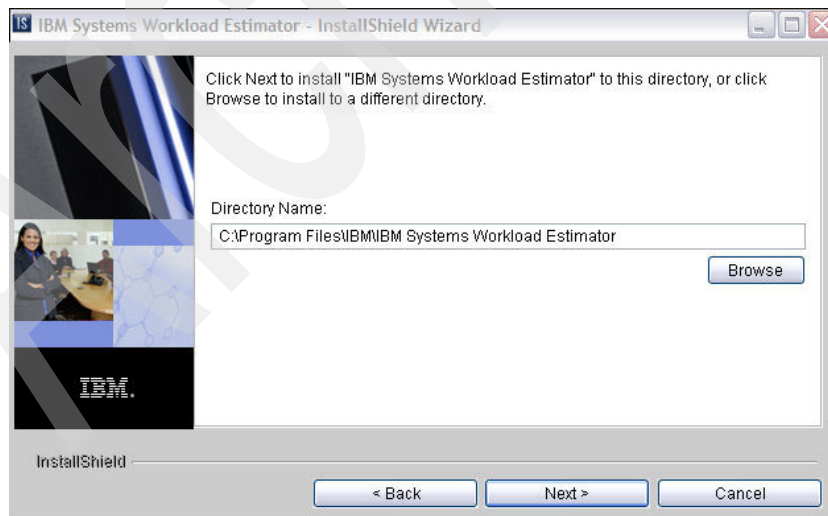

Figure B-13 WLE default install directory
10. The next step is to decide whether you want to accept the default installation directory (Figure B-13). Our suggestion is to accept this directory and click **Next**.